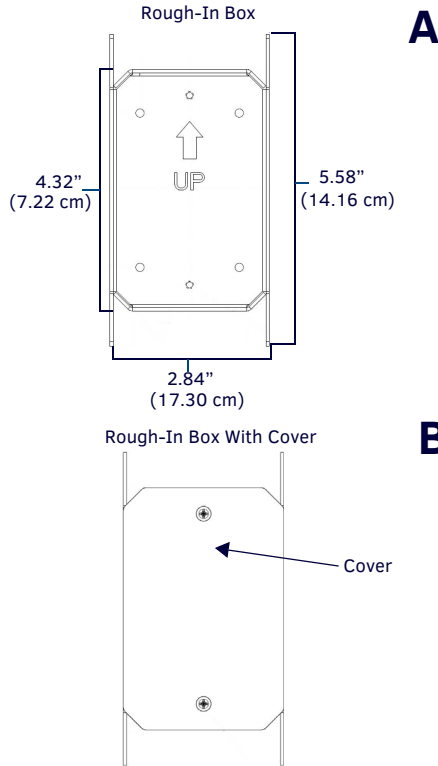

FIG. 1 CB-MXP43 ROUGH-IN BOX - WITH FRONT COVER
- Remove the rough-in box cover (B in FIG. 1) before installation of the Rough-In Box (A). *Note: the cover MUST be removed before drywall installation. The cover may be reinstalled after drywall installation using 4-40 screws (not included).*
**NOTE:** The front cover of the CB-MXP43 (B in FIG. 1) should be installed after the appropriate wiring is pulled to the Rough-In Box. The cover should then be removed prior to the installation of the touch panel back box and discarded.